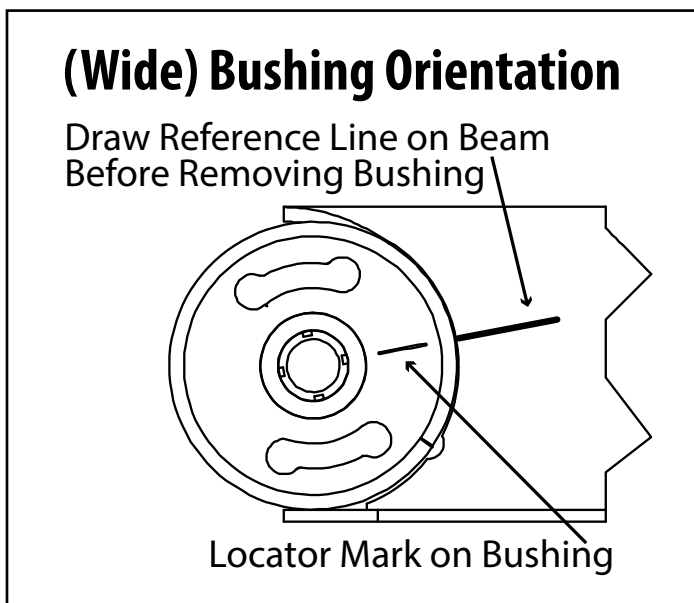

Figure 7.
- Using locator mark on old bushing as a reference, draw a line on the beam (Figure 7). The line will be used to orient the new bushing during installation.
- 4.2 Insert the threaded rod/end cap assembly through the beam eye. Place the tapered end of the cone onto the threaded rod and center the cone on the beam eye. Line up locator mark on new bushing with line drawn on beam during bushing removal (Figure 7).